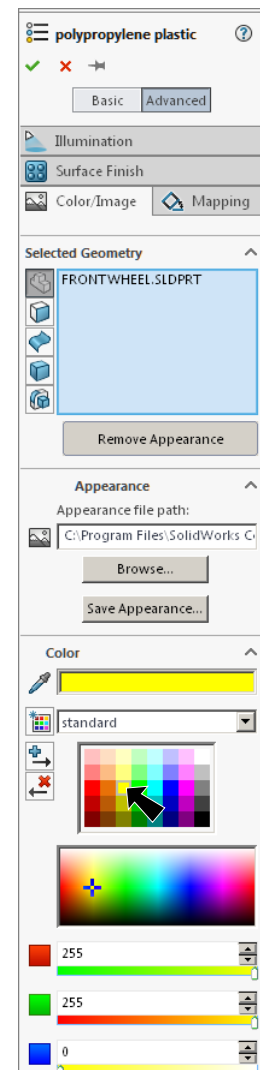

Fig. 21
Step 3. In the Appearances Property Manager under **Color**, **Fig. 21** click the **3rd yellow swatch** click **OK**.